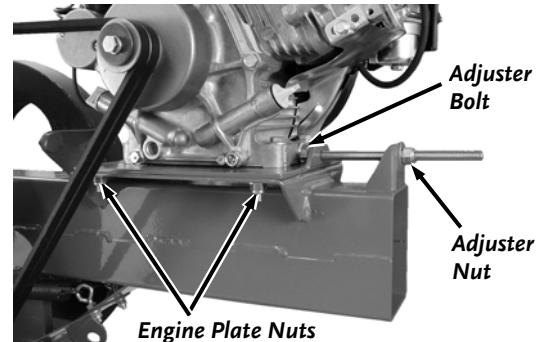

Figure 34
4. Loosen the four Locknuts that secure the Engine Mounting plate (**Figure 34**).